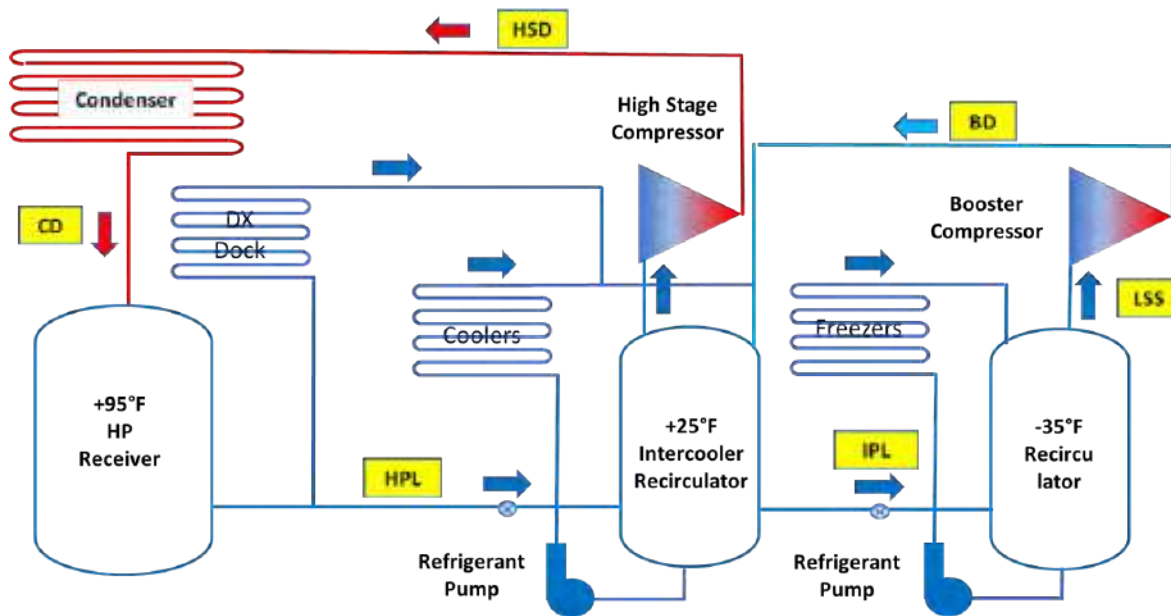

Figure 5. Typical Two-stage System.
The system shown in Figure 5 is a two-stage intercooled system. This generalized method applies to any refrigerant and both single- and two-stage systems. In a single-stage system, the booster discharge (BD) mass flows are zero. For a two-stage intercooled system, the system may look like Figure 5.